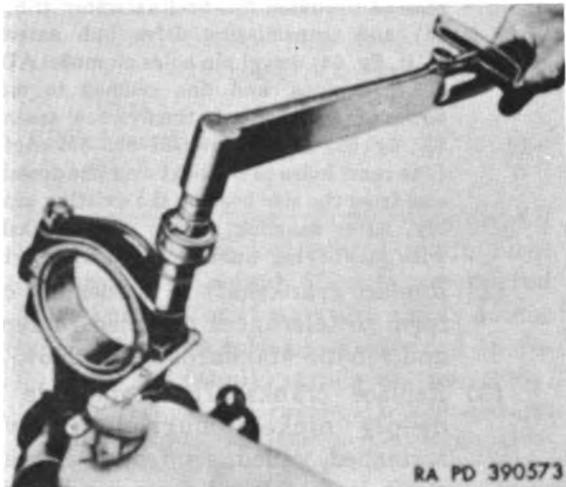

Figure 69. Pinch checking connecting rod bearing.
- (2) *Connecting rod bearings (E)*. Replace all defective bearings as described in paragraph 84b (1) through (4). New connecting rod bearings must be pinch checked in the rod and cap as described in (a) through (f) below.
- (a) Place connecting rod (F-3-a) securely in vise which has copper or leather jaws. Install new connecting rod bearing (E) in rod and in cap (F-3-b).
- (c) Using a torque wrench, tighten only one nut to 550 pound-inches of torque. On opposite side of rod, insert a 0.0015-inch feeler gage in joint between rod and cap as shown in figure 69.
- (3) *Connecting rod with cap (F-3)*.